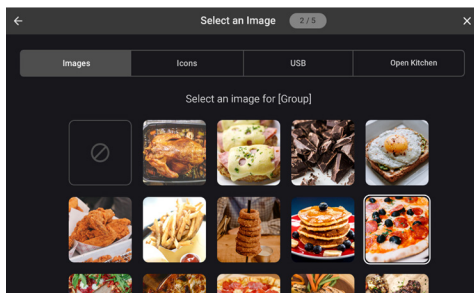

Figure 33: Select Image for New Recipe
- Select an image and touch the blue “Next” button (Figure 33, below).